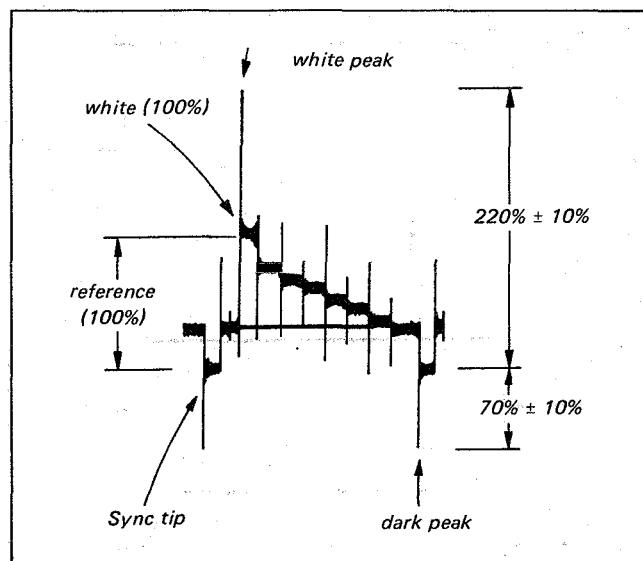

Fig. 5-25. Dark clip and white clip adjustment
- i) Adjust RV10 so that the signal tip (dark peak) is $70\% \pm 10\%$. (See Fig. 5-25.)